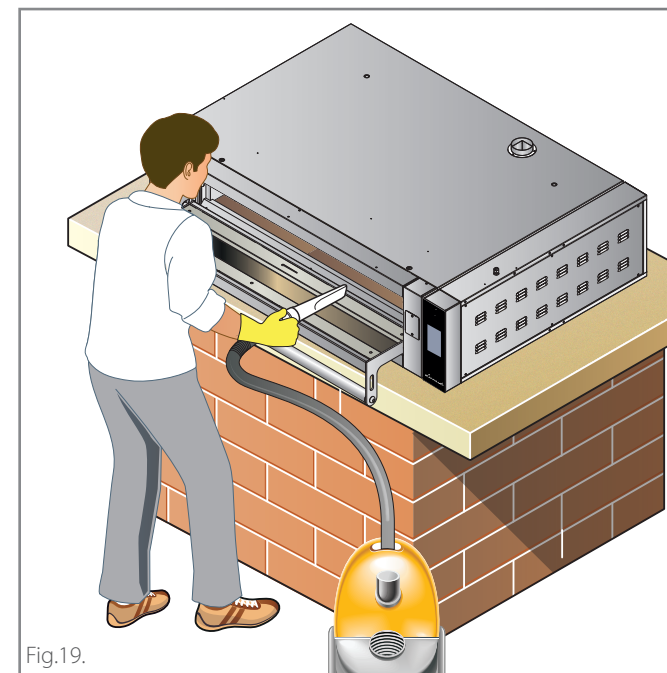

Fig.19.
- ① Touch the **ON/OFF**  key (if the oven is off);
- ② touch the **PYROLYSIS** key;
- ③ confirm pressing **OK**: the heating of the cooking chamber starts until the temperature of 400 °C - 752 °F is reached, when the function stops and the oven switches off automatically without you needing to do anything. To block the function early, press the pyrolysis key again or turn the oven off with the **ON/OFF** key .
- ④ in a cold oven, clean the chamber from the crystallized food residues using a natural fibre brush and then vacuum with an ash extraction bin ► **Fig.19.**